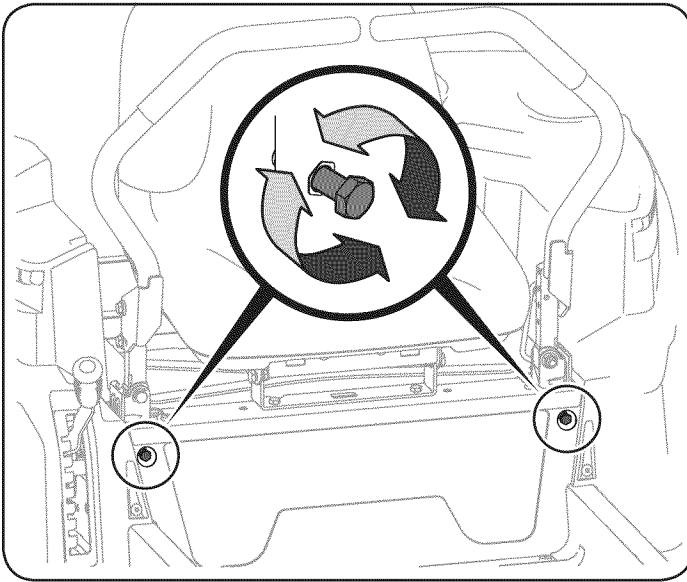

Figure 32
2. Locate the drive control lever stop adjustment bolts on the front of the seat frame. See Figure 32.